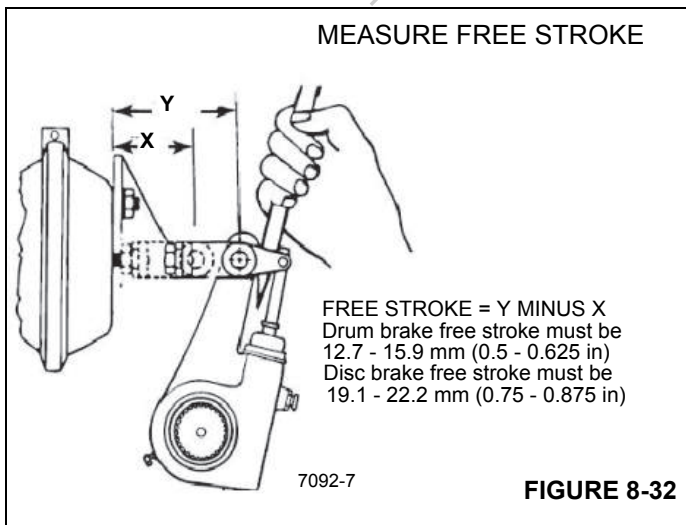

FIGURE 8-32
11. Measure the distance from the center of the large clevis to the air chamber mounting face with the brake fully released. This is dimension “X” in (Figure 8-32).
12. Using a pry bar, move the slack adjuster so that the linings contact the drum. Measure the distance between the same points as in step 11. This dimension is “Y” in Figure 8-32.
See Figure 8-32 and Figure 8-33, Free Stroke Measurement. Pull pawl must be disengaged before rotating adjusting nut. Pawl teeth will be damaged if not disengaged. Pry on the pull pawl at least 0.8 mm (0.0313 in) to disengage the teeth. When the pry bar is removed, the pull pawl will re-engage immediately.
13. Subtract dimension “X” from dimension “Y” (Figure 8-32). The difference should be 12.7 to 15.9 mm (0.5 to 0.625 in). If the stroke falls within these limits, no adjustment is required. If it falls outside these limits, proceed to step 14 through step 16.